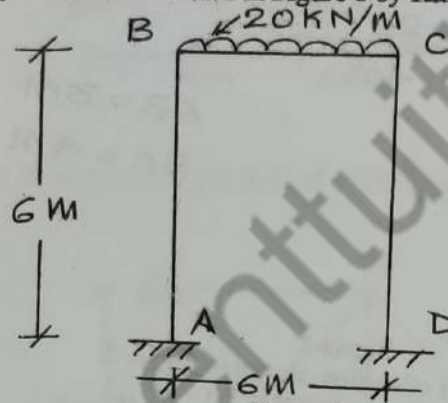

Figure 6
- Q3 a) Analyse the frame shown in Figure 6 by **Kani's Method**. Draw BMD